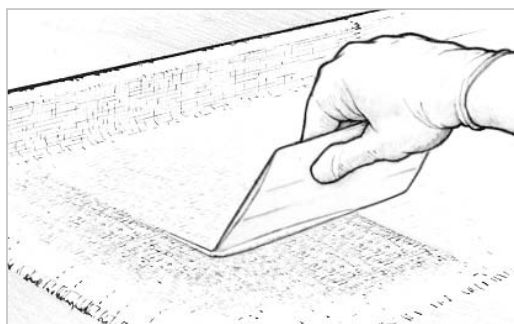

Figure 9-18 Squeegee away excess epoxy before the first batch begins to gel.
7. Squeegee away excess epoxy before the first batch begins to gel (*Figure 9-18*). Drag the spreader over the fabric, using even-pressured, overlapping strokes. Use enough pressure to remove excess epoxy that would allow the cloth to float off the surface, but not enough pressure to create dry spots. Excess epoxy appears as a shiny area, while a properly wet-out surface appears evenly transparent, with a smooth, cloth texture. Later coats of epoxy will fill the weave of the cloth.